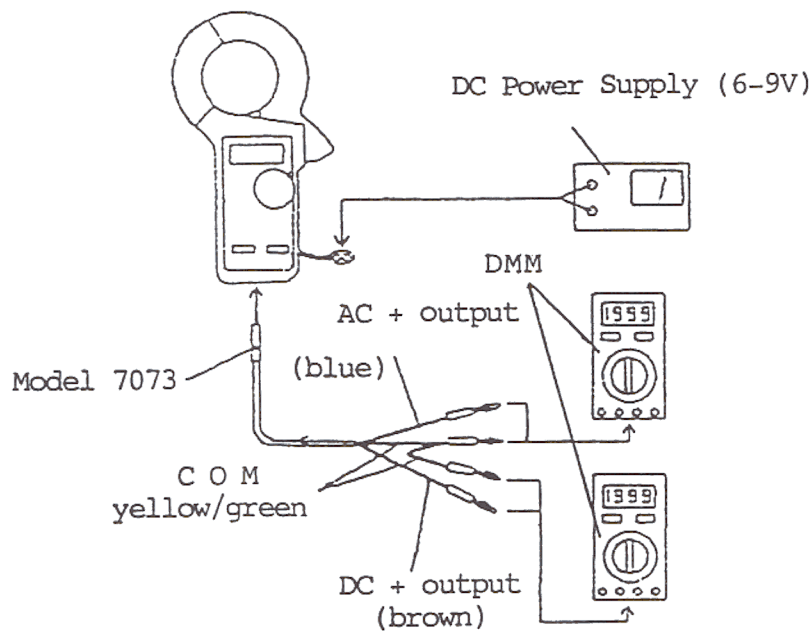

Fig. 1
- 1 As shown in Fig. 1, connect the DC power supply to the battery hook, output cord Model 7073 to DMM's and output terminal of Model 2413F.